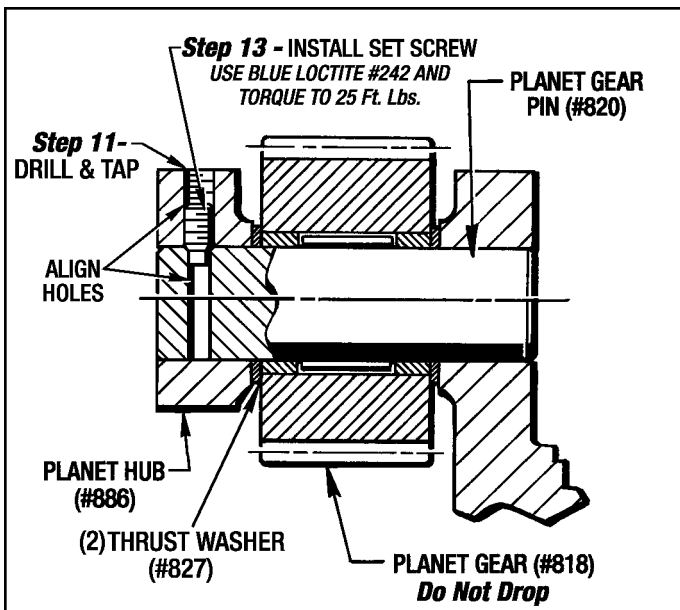

Figure 2 - Installing Set Screws
Install the Planet Gear Pin (#820), Planet Gear (#818) and (2) Thrust Washers (#827) into the Planet Hub (#886) as shown in *Figure 2*. Make sure the holes are aligned with each other.